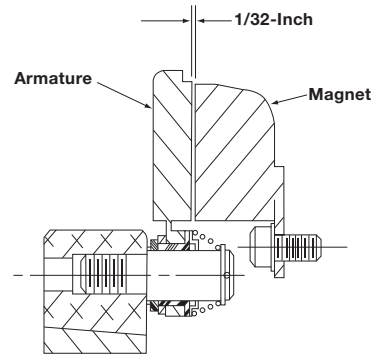

Figure 9
3. Place the face of the armature approximately 1/32-inch from the face of the magnet. Once this gap is set, it will be automatically maintained throughout the life of the unit. (See Figure 9.)